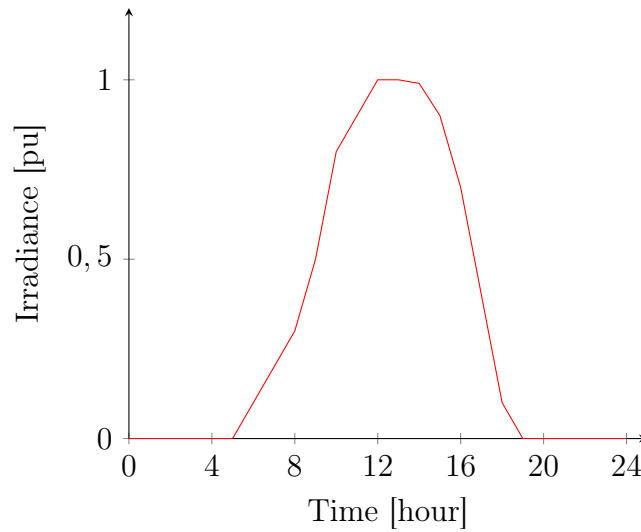

Figure 4: Daily irradiance curve
- *yearly* or *daily* or *duty*: yearly, daily or duty irradiance curves, respectively. These curves are defined in *pu* of the value defined in the *irradiance* property. To define this curve in OpenDSS, Figure 4, you must use the LoadShape object, as shown below.